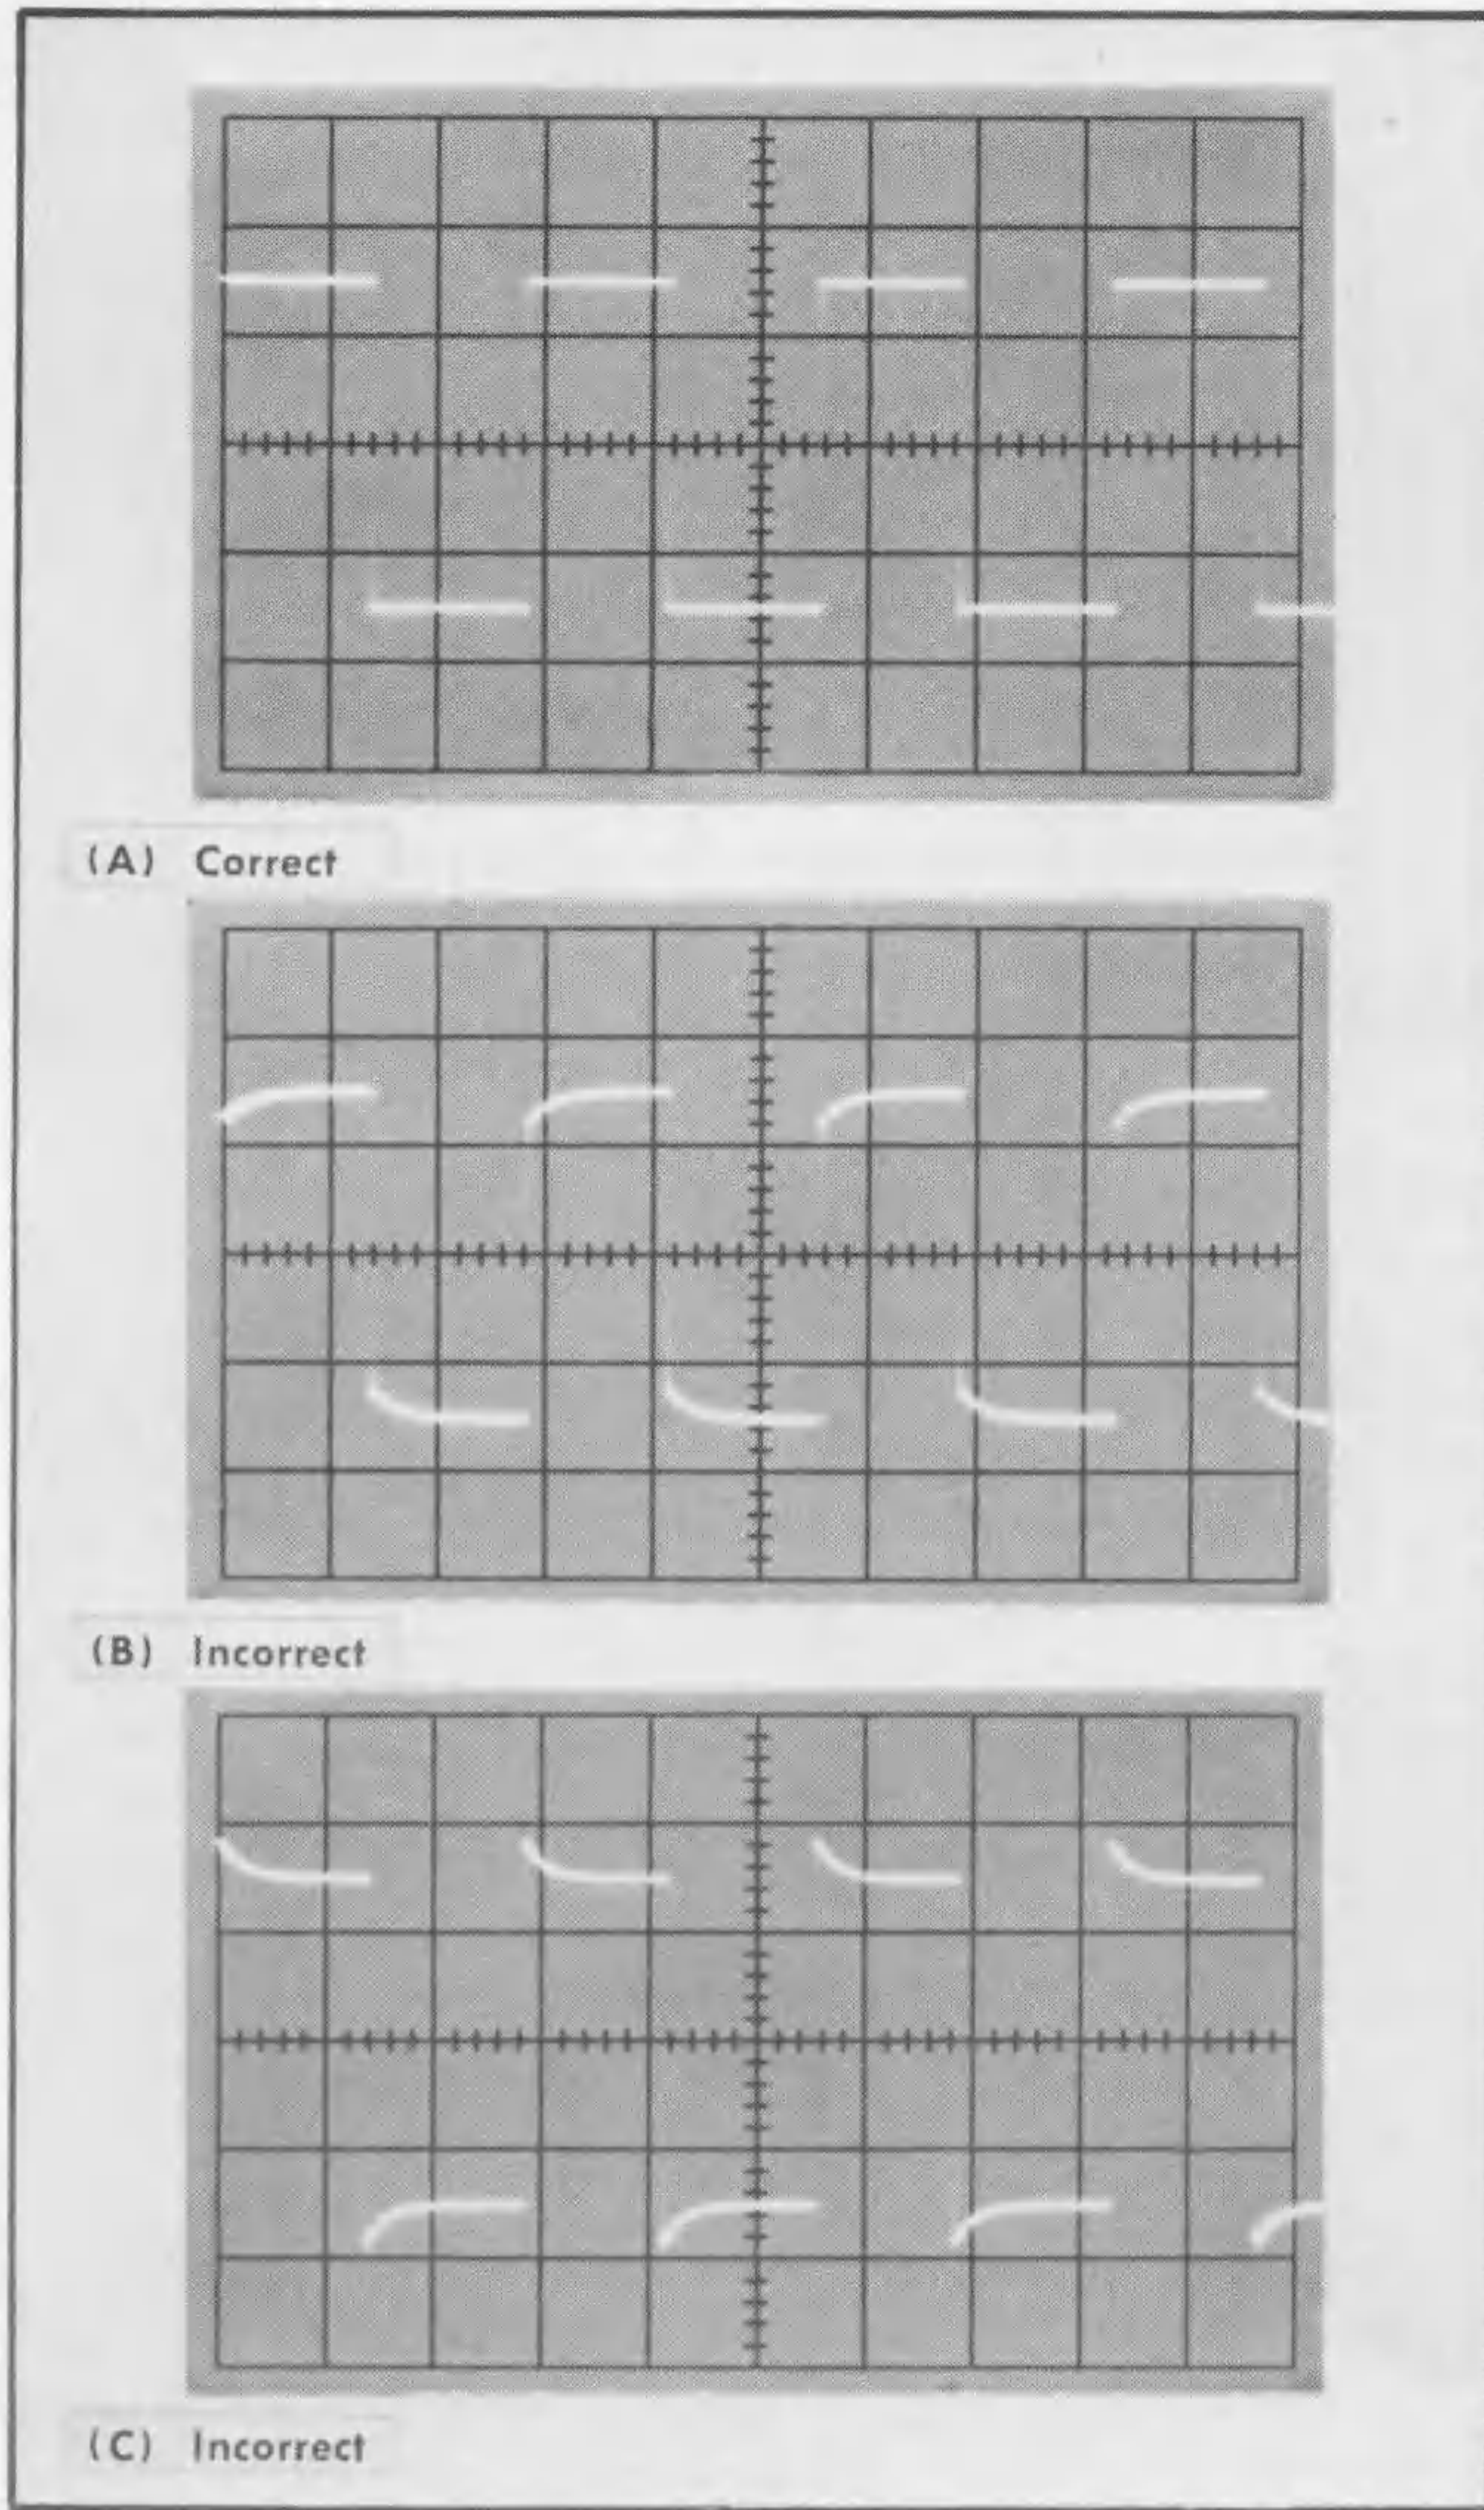

Fig. 2-10. Probe compensation.
(d) Check the waveform presentation against Fig. 2-10(A). Waveform presentations resulting from incorrect adjustments are shown in Fig. 2-10(B) and (C).